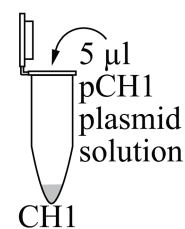

Fig. 14
8. Using a P20 micropipette and a sterile tip, add 5 μ l pCH1 plasmid solution to tube “CH1” (Fig. 14).